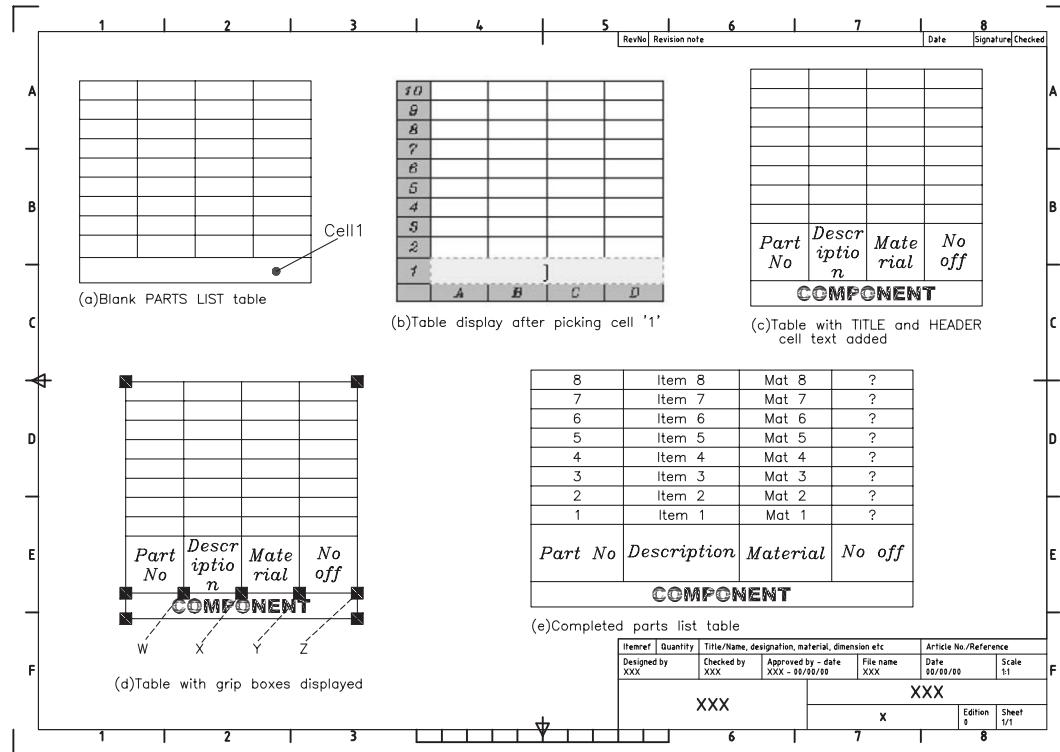

Figure 29.1 Creating the table for a wblock.
pick OK to display a blank table as Figure 29.1(a).
- 4 Double left-click in the title cell denoted in Figure 29.1(a) and:
d) Grid markers 1–10 displayed for the rows – Figure 29.1(b)